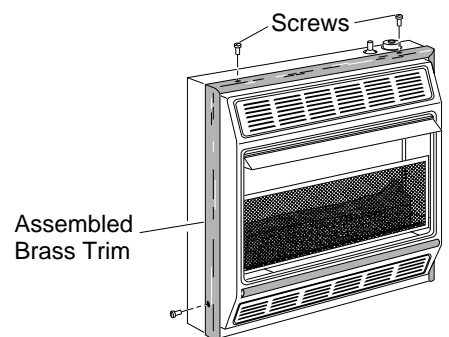

Figure 6 - Attaching Brass Trim to Heater
8. Place the assembled trim on front of heater cabinet. Attach on top and sides with four brass screws included in hardware package (see Figure 6).